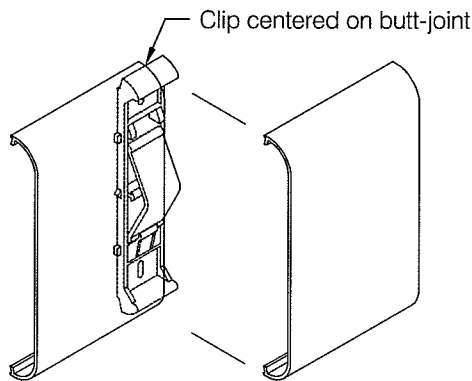

fig 7
- At each snap-on cover butt-joint, see **fig 7**
Step 7: Measure between accessories and cut the vinyl cover. Miter cut the cover for all inside corners and special angles not accommodated by the molded accessories. Install a Quik Clip retainer centered at each butt-joint location, see **fig 7**.